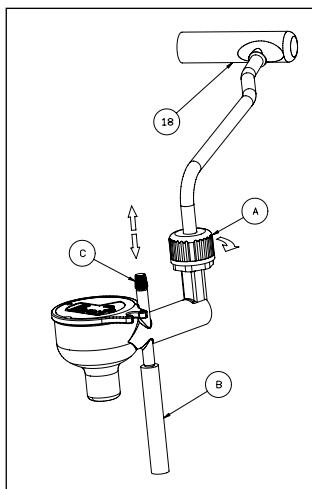

FIG 2
- place the cup containing the previously prepared coffee under the nozzle of the Cappuccino Automatic, and open the steam tap knob (4) by turning it anticlockwise; this will start the delivery of emulsified hot milk, with abundant froth. To stop the delivery, close the steam tap knob (4), by turning it clockwise.
You can adjust the milk froth by acting on the pin (C) (Fig. 2), Cappuccino Automatic to have the desired consistency of cream. For a cream with greater volume, move the plug upwards (Fig. 2).
- Make sure that the steam tap knob (4) is closed, (picture B);
- Turn the steam pipe (12) clockwise until it stops and slip the steam pipe out of its seat, pulling it rightwards, (picture N);
- Slide the Automatic Cappuccino maker onto the steam pipe (18) up to the stop and tighten the locking ring (clockwise) (Fig. 2).
- Slip in its seat the device with the Cappuccino Automatic (17), pushing it leftwards, (Fig. 2). Turn the device with the Cappuccino Automatic (17) anticlockwise until it stops. replacement of the traditional steam pipe (12) with the Cappuccino Automatic (17) (an optional part on the models with black base) must take place before starting the machine.